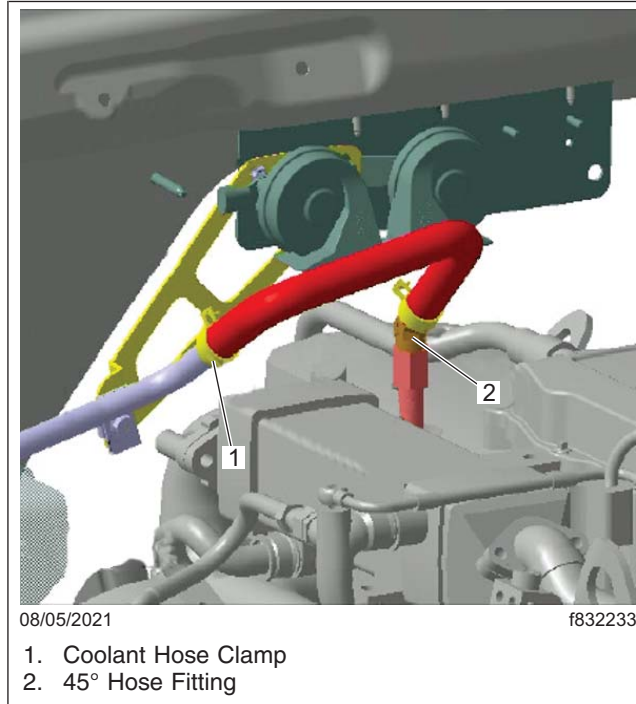

Fig. 2, Original Heater Hose Installation
- 6.1 Remove the clamp opposite the 45 degree fitting, as shown in **Fig. 2**.
- 6.2 Remove the 45 degree fitting, shown in **Fig. 2**. Use a wrench to hold the end of the heater coolant supply tube as you remove the fitting.